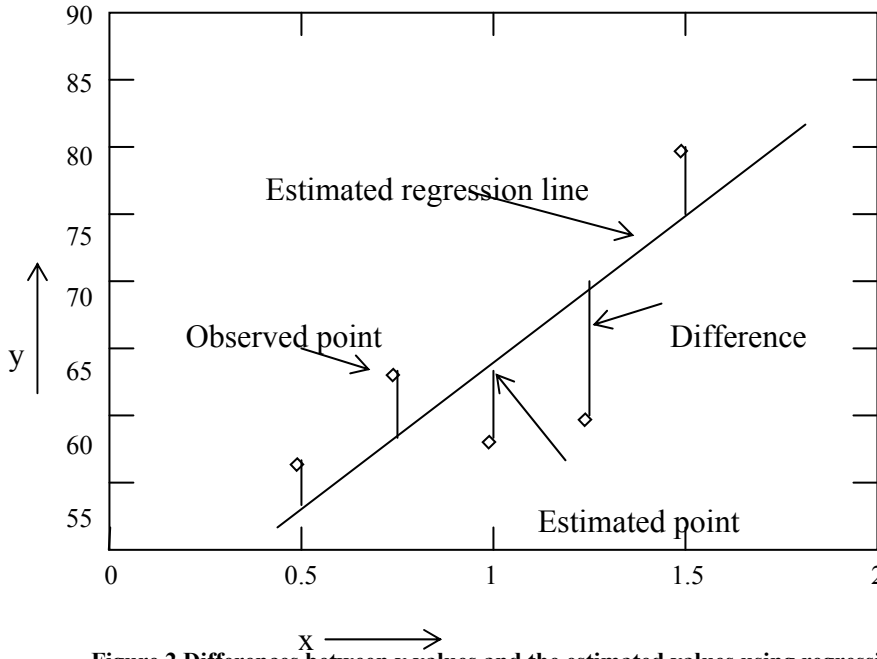

Figure 2 Differences between y values and the estimated values using regression line
Suppose that we have  $n$  pairs of observations, say  $(x_1, y_1), \dots, (x_n, y_n)$ . It is assumed that the observed  $y_i$  and  $x_i$  satisfy a linear relation as given in the model (1). These data can be used to estimate the unknown parameters  $\beta_0$  and  $\beta_1$ . The method we are going to use is known as the method of least squares, that is, we will estimate  $\beta_0$  and  $\beta_1$  so that the sum of squares of the deviations from the observations to the regression line is minimum. We will try to explain it first using a graphical method in Figure 2. For illustrative purposes we are just taking 5 data points  $(x, y) = (0.5, 57), (0.75, 64), (1.00, 59), (1.25, 68), (1.50, 74)$ . The estimated regression line can be obtained as follows. For any line we have calculated the sum of the differences (vertical distances) squares between the  $y$  value and the value, which is obtained using that particular line. Now the estimated regression line is that line for which the sum of these differences squares is minimum.